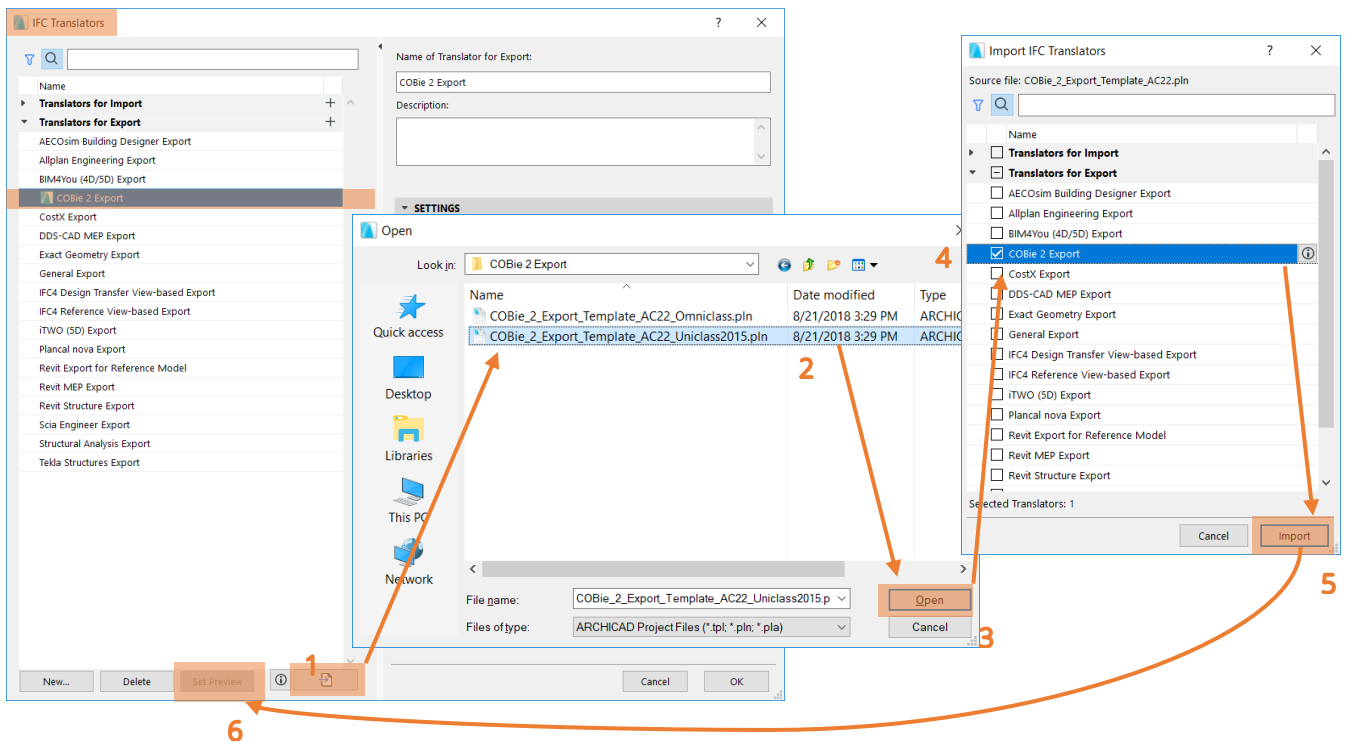

Figure 4 – STEP 3 - Importing 'COBie 2 Export' IFC translator into current project
3. After the Classification System and Properties are imported, the IFC translator shall be imported into the Export IFC translators. (*Figure 4*)
Open *File > Interoperability > IFC > IFC Translators* and follow the steps on Figure 4.